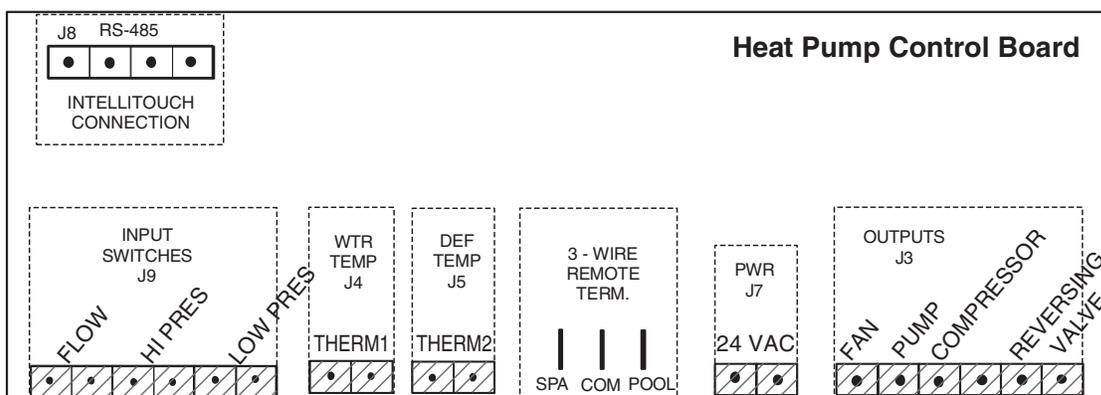

Figure 11.
9. Connect the cable from the IntelliTouch® or EasyTouch® Load Center to the heat pump remote control terminals using 1/4 in. "Spade" connectors, see Figure 11 on the previous page. Follow instructions for wiring on page 12.